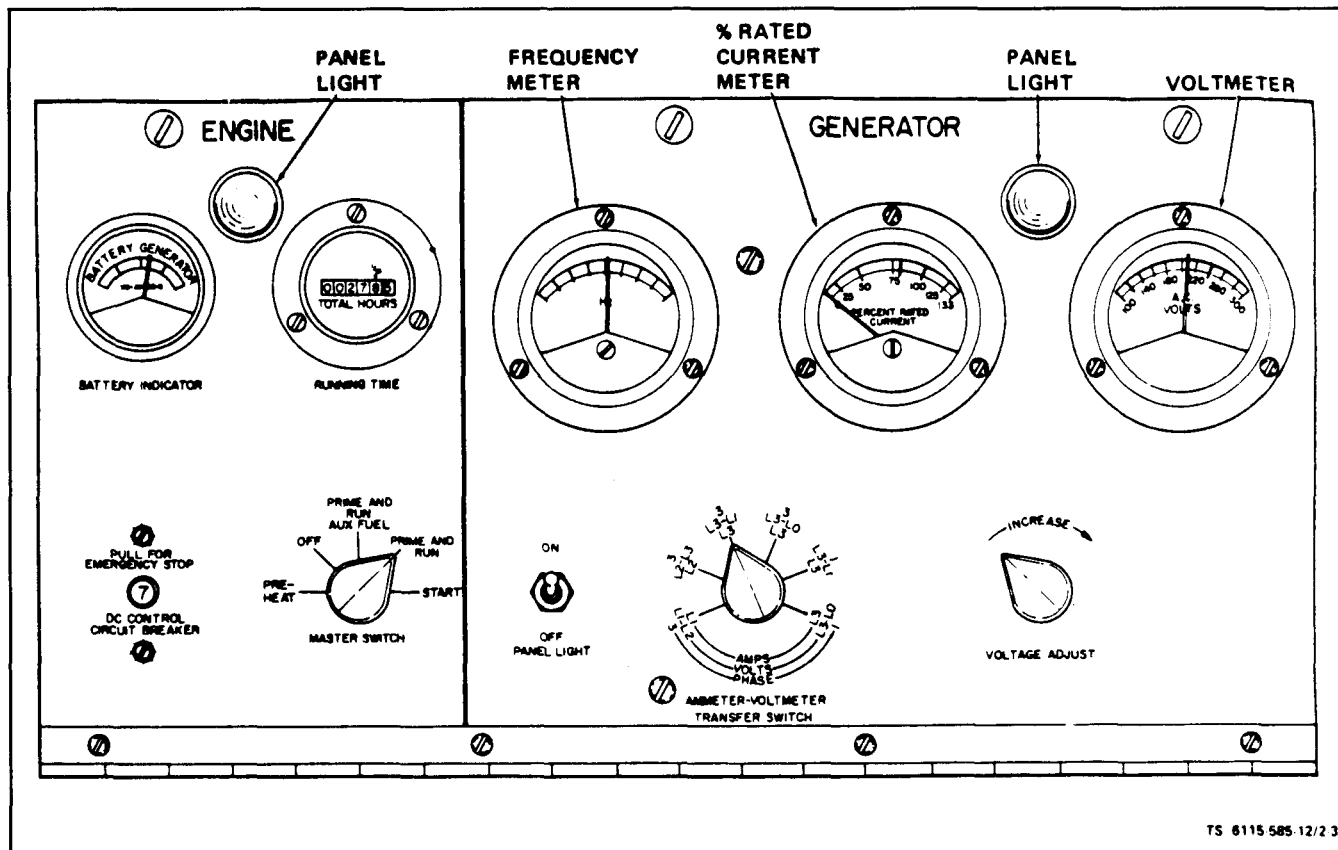

Figure 2-3. Control Panel
d. Table 2-1 describes the Generator Set controls and instruments (see figure 2-3).
2-4. STARTING GENERATOR SET (SEE FIGURE 2-3).
h. Place ammeter-voltmeter transfer switch in position to check percent rated current for either 1-phase 120 V. output, 1-phase 120/240 V. output, or 3-phase 120/208 V. output. See table 2-1 and figure 2-3.
- d. Emergency Stop. To stop Generator Set in an emergency, pull out DC control circuit breaker (see figure 2-3).